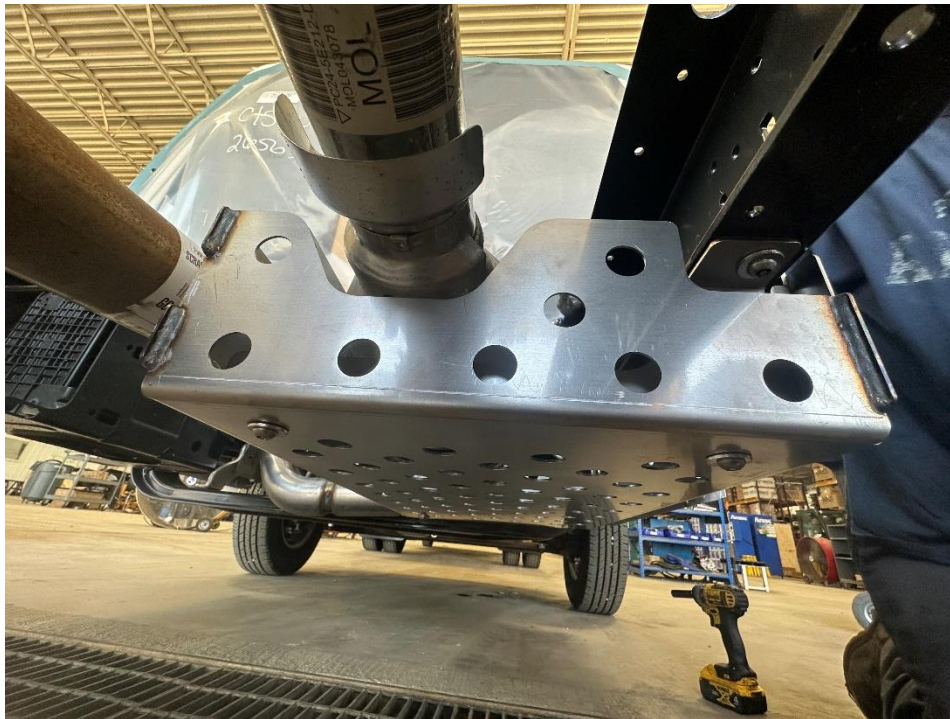

Figure 4
- E. Using the 5/16" hardware, lift the guard into place lining up the slotted holes with the holes on the brackets and bolt it. See Figure 4.